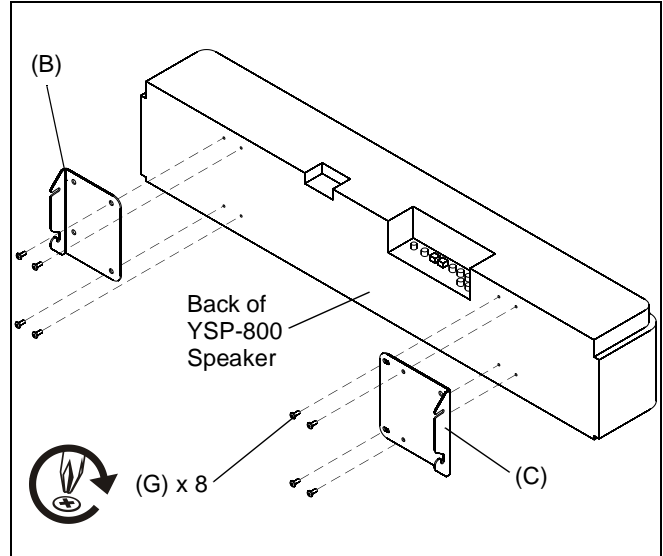

Figure 9
NOTE: Ensure that hook on speaker brackets (B and C) point down and face outside of speaker. (See Figure 9)
1. Attach speaker brackets to left and right side of speaker, using four M4 x 10mm Phillips screws (E) on each bracket. (See Figure 9)